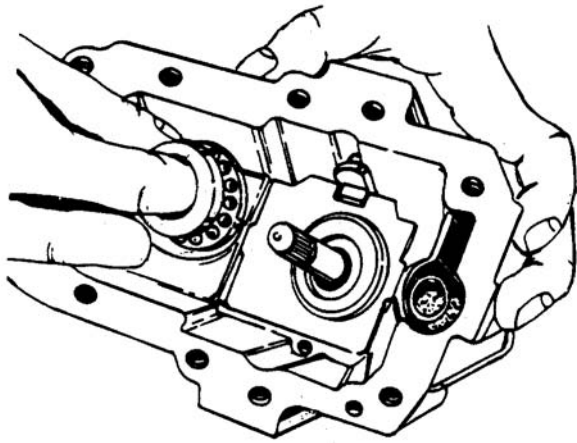

Figure 6-52. Replacing Thrust Ball Bearing
- c. Replace thrust ball bearing (motor). See Figure 6-52.